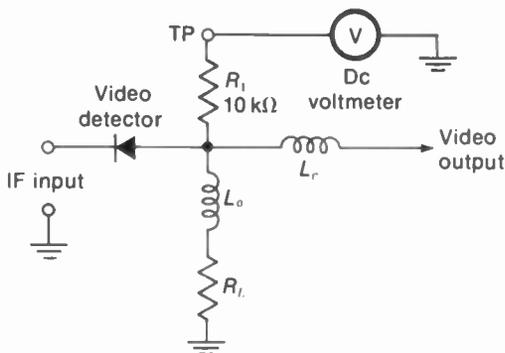

FIGURE 13-29 MEASURING RECTIFIED IF SIGNAL WITH DC VOLTMETER AT VIDEO DETECTOR TEST POINT.
**Video detector test point.** Most receivers have a test point (TP) to measure the video detector output from the top of the chassis. As shown in Fig. 13-29,  $R_1$  of about  $10\text{ k}\Omega$  is used to isolate TP. A dc voltmeter here is a convenient measurement because a dc meter is used to check IF signal. The dc level of the rectified signal is typically 2 or 3 V for vacuum tube amplifiers. With transistors, this dc voltage is about 0.5 V. When the receiver is switched off channel to remove the signal input, the detector output drops to a lower value. The small output voltage without signal is rectified receiver noise.